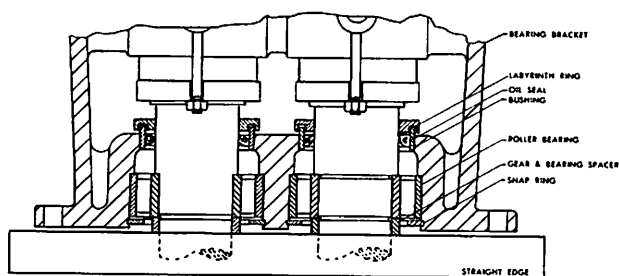

Fig. 10
12. Install gear and bearing spacers (35). If original spacers are being used, be sure they are returned to their original positions.
16. Return to the thrust end and lay a straightedge across the outer thrust bearing races (See Fig. 10). Thrust bearings must be flush. If necessary, bump one shaft to bring bearings flush.